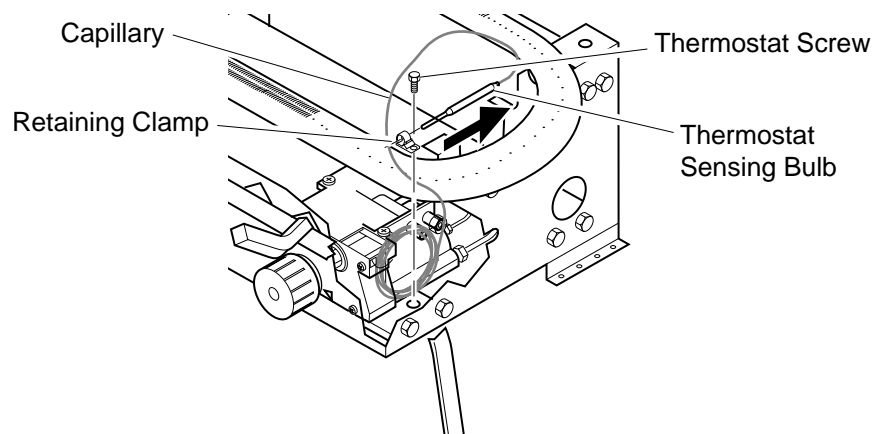

Figure 28 - Removing Thermostat Sensing Bulb
3. With 1/4" hex driver or socket, loosen the thermostat screw. Carefully slide the thermostat sensing bulb out of the retaining clamp (see Figure 28).